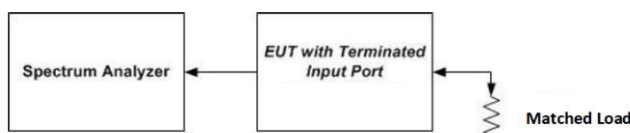
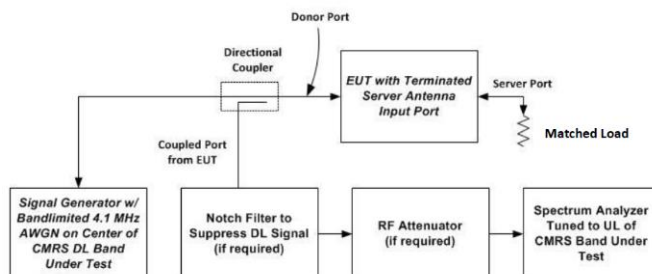

Figure 3 – Noise limit test setup
Figure 4 – Test setup for uplink noise power measurement in the presence of a downlink signal
a) Connect the EUT to the test equipment as shown in Figure 3. Begin with the uplink output (donor) port connected to the spectrum analyzer. When measuring downlink noise, connect the downlink output (server) port to the spectrum analyzer.
h) Connect the EUT to the test equipment as shown in Figure 4 for uplink noise power measurement in the presence a downlink signal. Affirm the coupled path of the RF coupler is connected to the spectrum analyzer.
m) Measure the maximum transmitter noise power level while varying the downlink signal generator output level from -90 dBm to -20 dBm , as measured at the input port (i.e., downlink signal level at the booster donor port node of Figure 4), in 1 dB steps inside the RSSI-dependent region, and in 10 dB steps outside the RSSI-dependent region. Report the six values closest to the limit, with at least two points within the RSSI-dependent region of the limit. See Appendix D for noise limits graphs.
NOTE—Some signal boosters will require a signal generator input because they will not operate unless a signal is received at the input terminals. If this is the case, for the setups shown in Figure 3 and Figure 4 connect a second signal generator at the server port, then cycle the RF output of the second signal generator to simulate this function.
Variable uplink noise timing is to be measured as follows, using the test setup shown in Figure 4.
- a. Connect the EUT to the test equipment as shown in Figure 3 with the uplink output (donor) port connected to the spectrum analyzer.